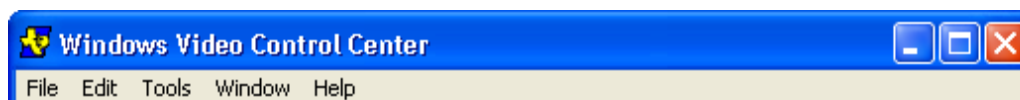

Figure 7. WinVCC – Main Screen
5. When using the TVP5154 EVM with a composite output from the 7311 encoder, it is required to disable auto-switch polling in the Real-Time Polling dialog box by clicking on the ENABLED button. Click OK and then the Main Control Window is seen, as shown in Figure 7.